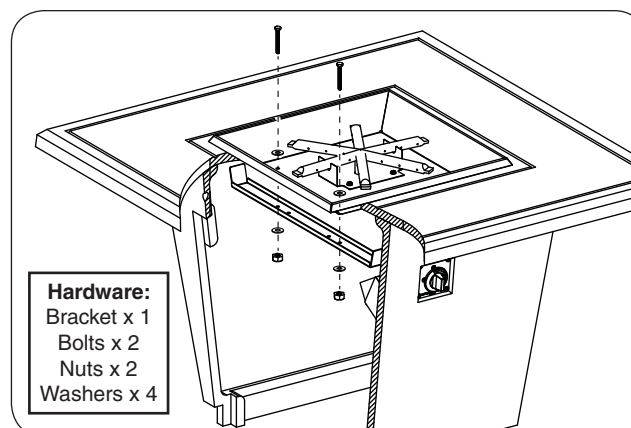

Fig. 20-4 Install bracket
6. Locate the supplied support bracket and install as shown in Fig. 20-4. The bracket must be inserted into the enclosure through the door opening, aligned with the holes found on the burner pan, and fastened with a 1/2" wrench and the supplied bolts (2), nuts (2), and washers (4).